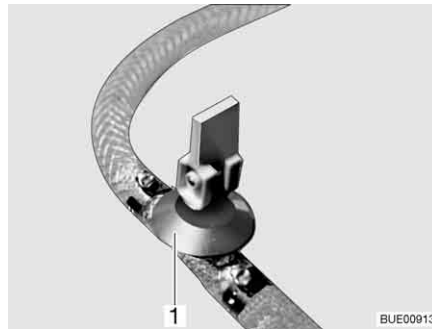

Fig. 188 Drain cock
- Close the drain cock(s). Position the rocking lever (Fig. 188,1) horizontally.
- Open drain cock(s) (Fig. 188). To do so, set the rocking lever (Fig. 188,1) in a vertical position. The boiler is drained to the outside.